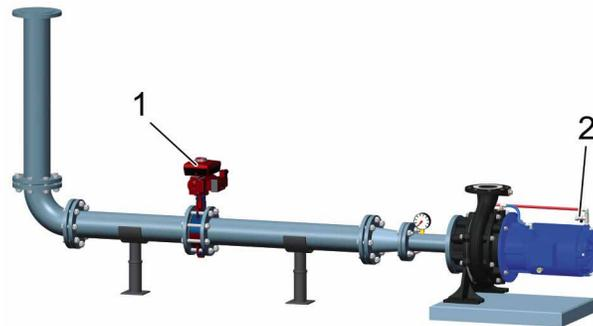

Fig. 40 Filling the pump (example: herborner.F-X-C)
1. Open the gate valve (Fig. 40/1) slowly and steadily.
2. On the herborner.F-N-C, de-aerate the pump via the ball valve (Fig. 40/2) on the motor's return pipe.